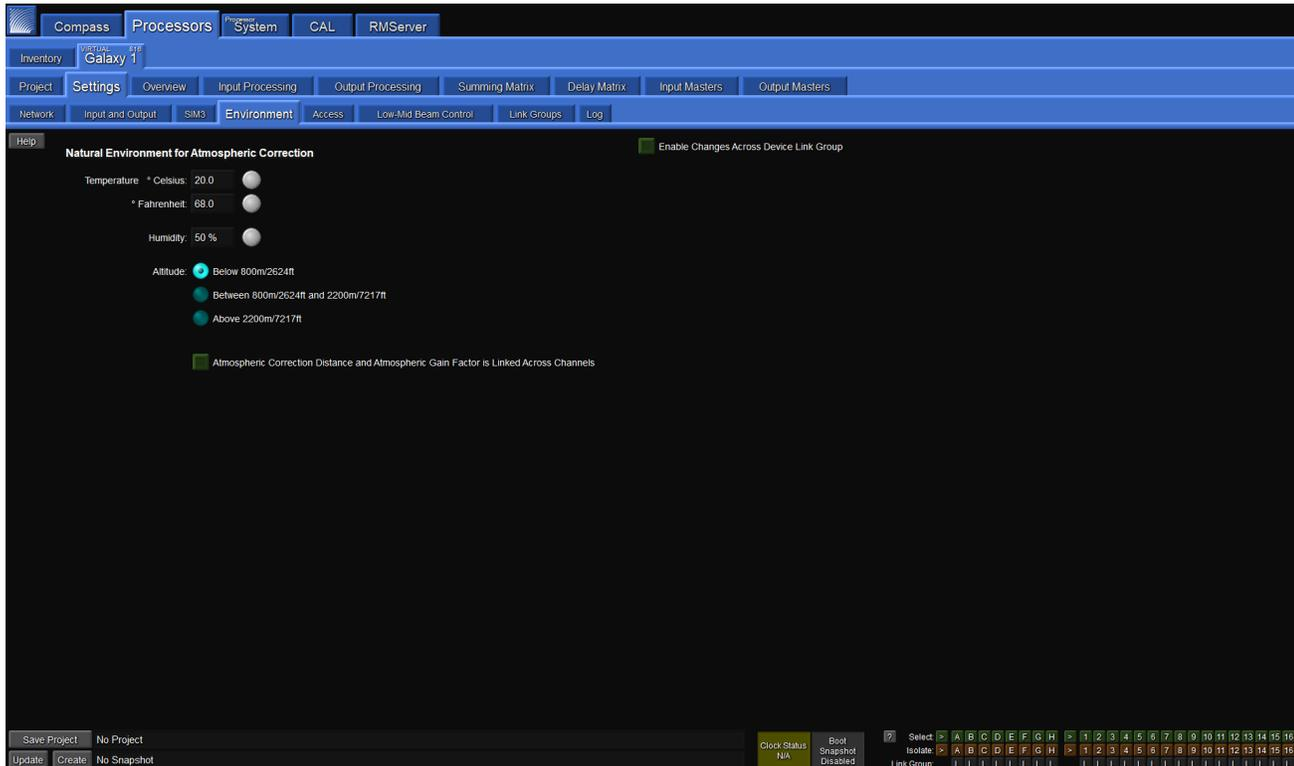

Figure 41: Environment Tab Settings
2. Select the Settings > Environment tab (Figure 41).